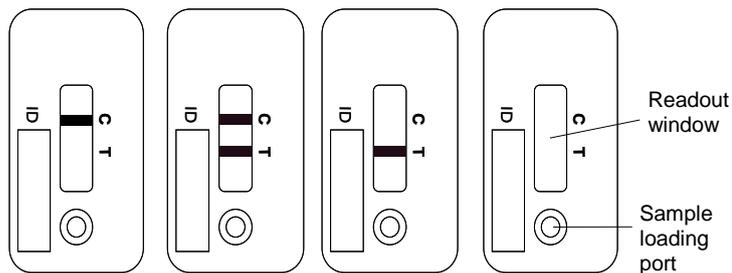

Fig. 1A Fig. 1B Fig. 1C Fig. 1D
- For a valid test result, the Control Line (C) must be visible in any case (see Fig. 1A and Fig. 1B). It is used as a functional test control only and cannot be used for the interpretation of the Test Line (T). If the Test Line (T) is not detectable after 15 minutes of incubation time (Fig. 1A), the concentration of infliximab present in the serum sample is below the detection limit. If a Test Line (T) is detectable after 15 minutes of incubation time (Fig. 1B), the infliximab concentration present in the serum sample is calculated by the Quantum Blue® Reader.